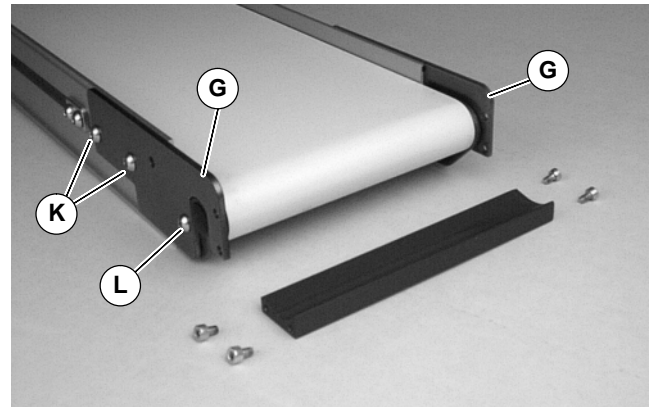

Figure 11
7. Loosely install transfer cover plates (G of Figure 11) using original screws (K & L).